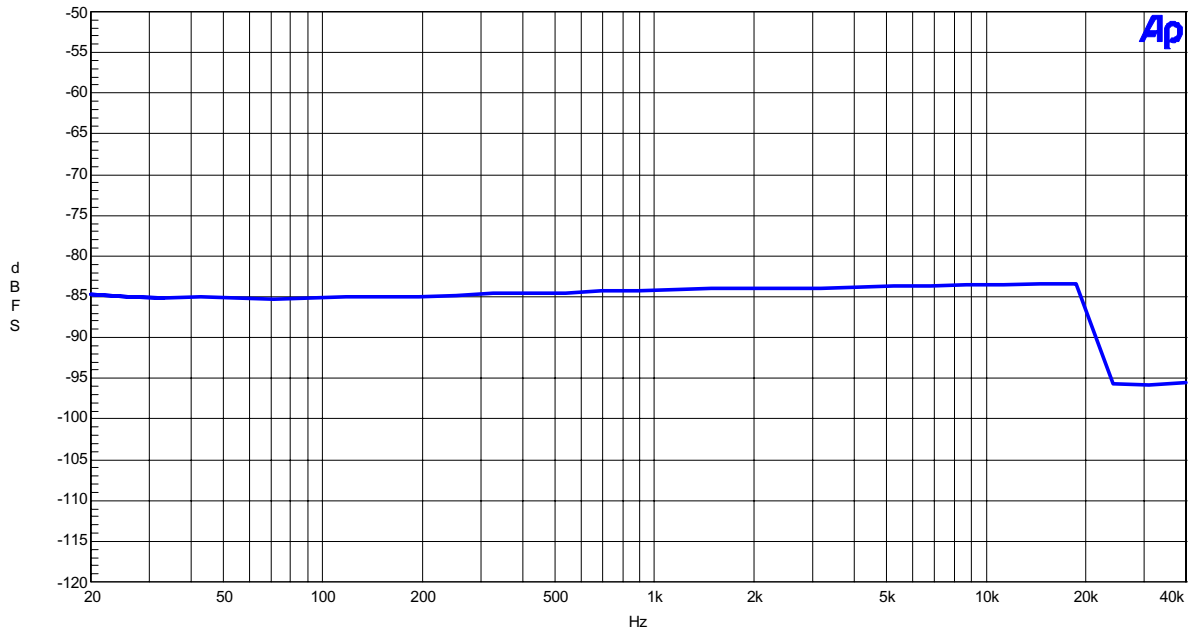

Figure 2-5. THD+N vs fin (Input Level=-1dBFS)
- Figure 2-5. THD+N vs. fin (Input Level=-1dBFS)